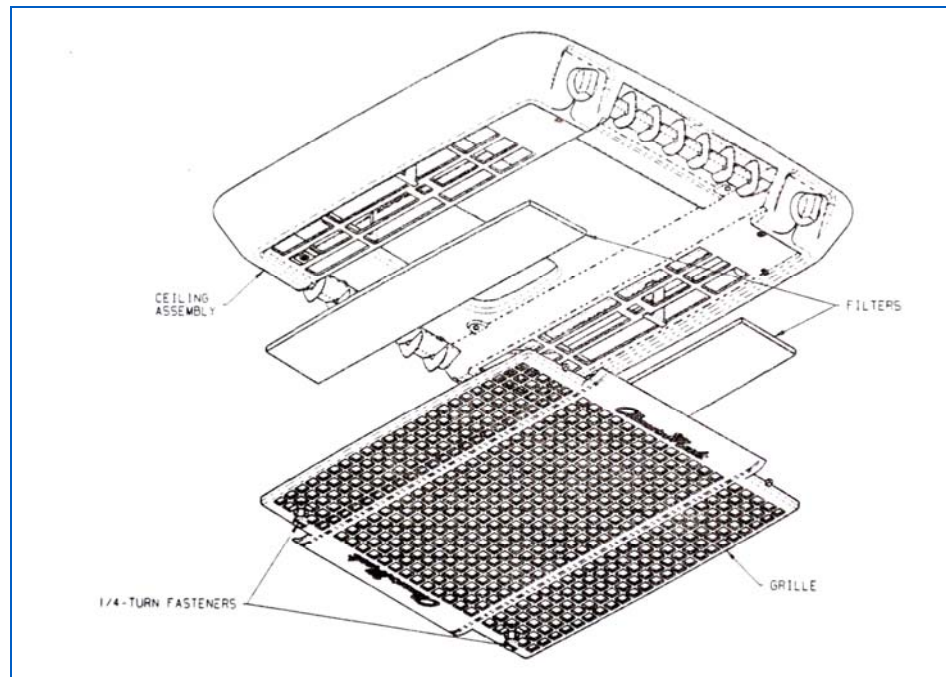

Figure 324: Removing the Air Conditioning Filters
1. Disengage the two ¼-turn fasteners that secure the ceiling assembly grille to the ceiling assembly (see Figure 324).
3. Take filters out and either clean or exchange with other filters (see Figure 324).